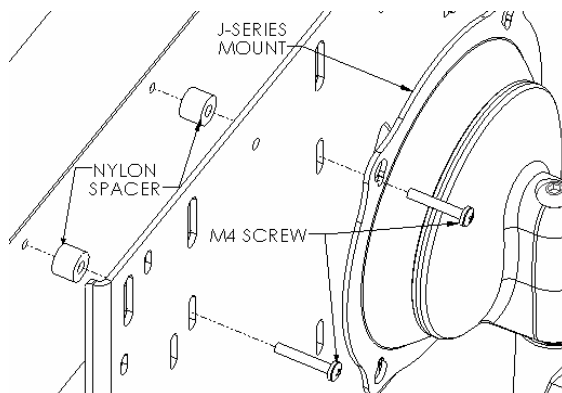
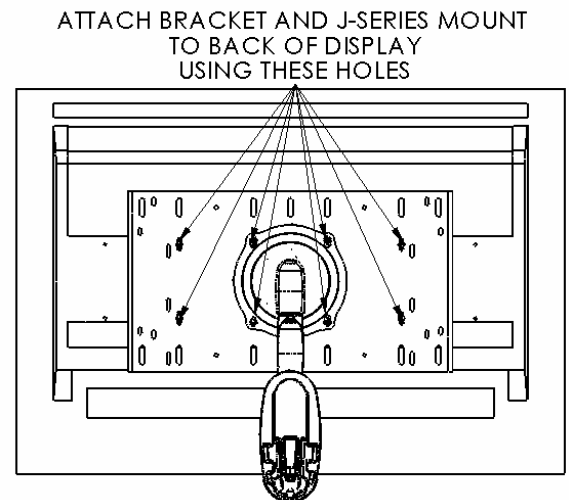

Figure 6
Figure 7
5. **J-Series Installation:** Using the M4 screws and Nylon spacers, attach both the MSB interface bracket and J-Series mount to back of screen (see Figure 6 & Figure 7). Because of the specific mounting pattern on the back of the display, it is required to attach the J-Series mount to the back of the display before attaching it to the wall.